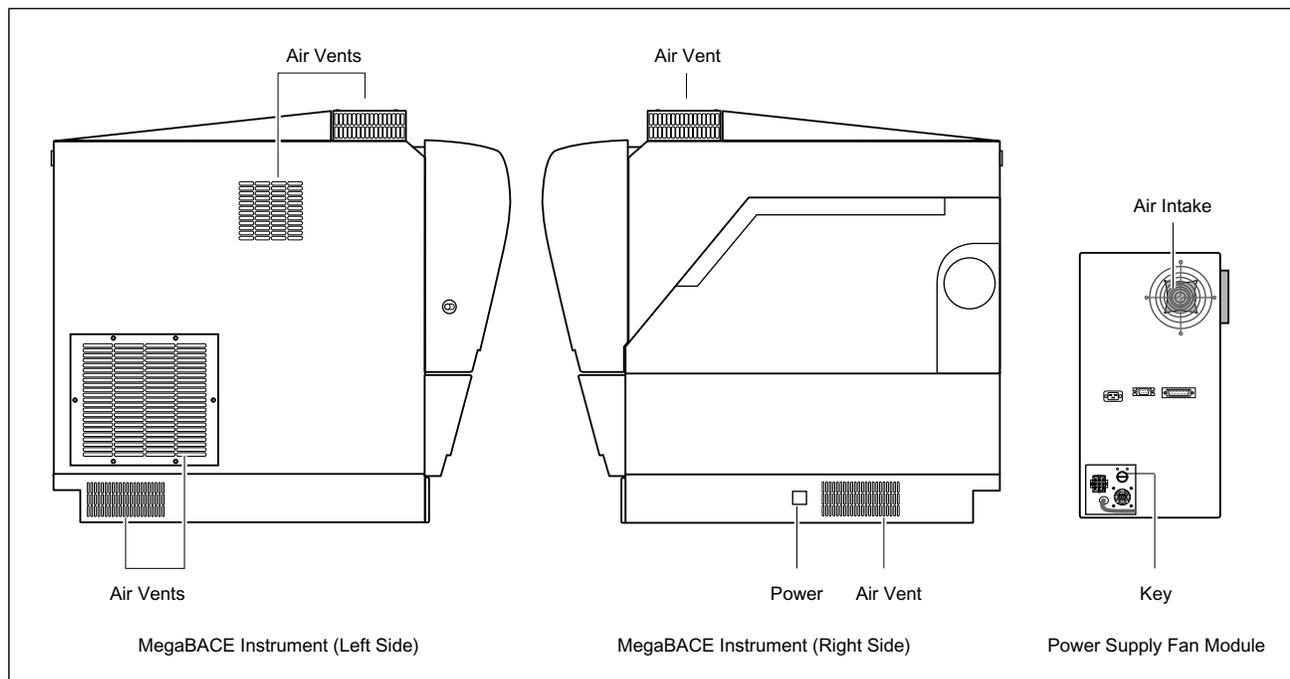

Figure 6-15. Instrument Airflow Openings.
- The power supply fan module is plugged in, and the key on the back of the unit is in the horizontal (on) position (figure 6-15).
1. Turn on the **power** switch on the right side of the instrument (figure 6-15). The instrument starts up—